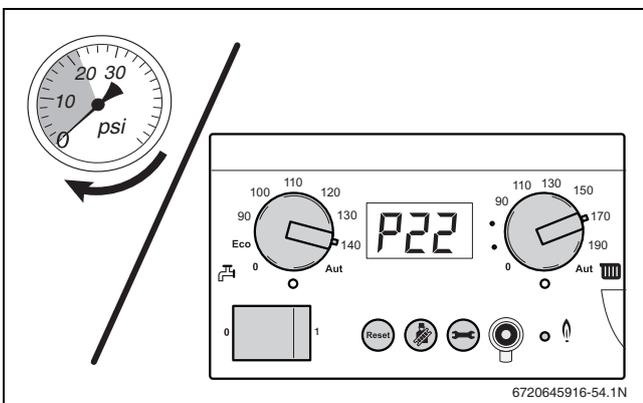

Fig. 58 Reading the pressure gauge
- ▶ Read the pressure (PSI) from the pressure gauge on the pump group or on the control panel of the BC10 (→ fig. 58).